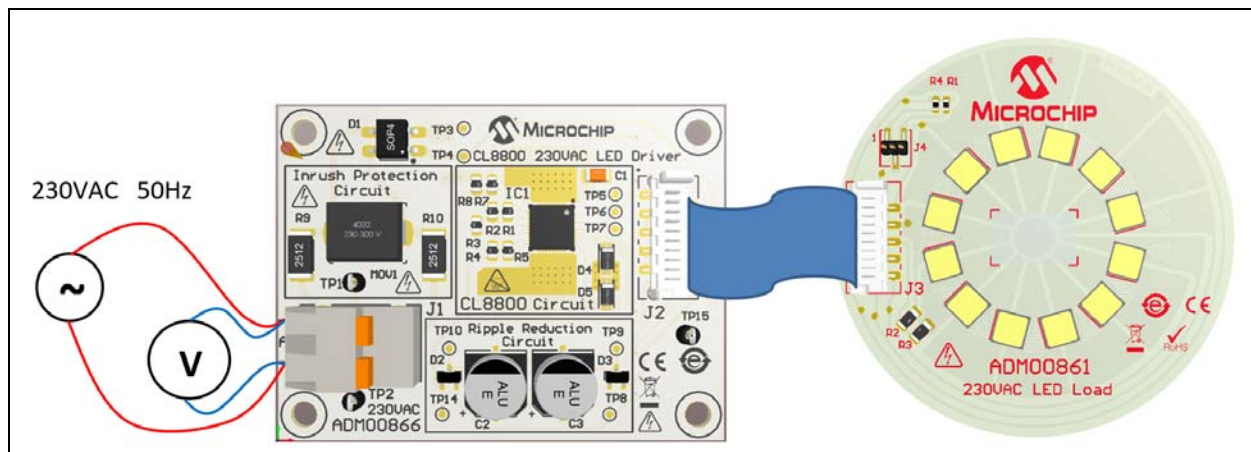

FIGURE 2-1: Connection Diagram.
Figure 2-1 illustrates the connection between ADM00866 and ADM00861.
1. Connect the input AC source and the output LED Load, as shown in Figure 2-1.